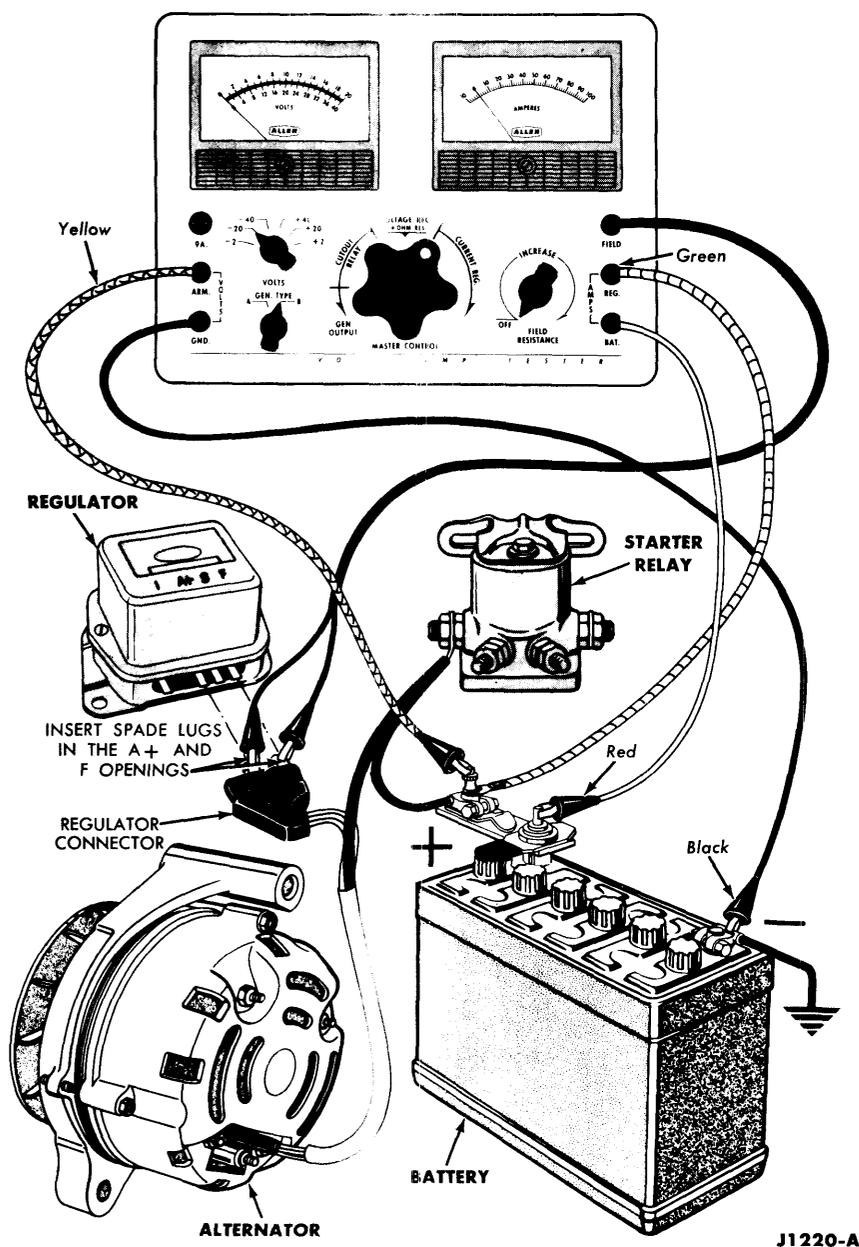

FIG. 37—Alternator Output Test
1. Make the connections as shown in Fig. 37. Be sure that the field resistance control is at the OFF position at the start of this test.